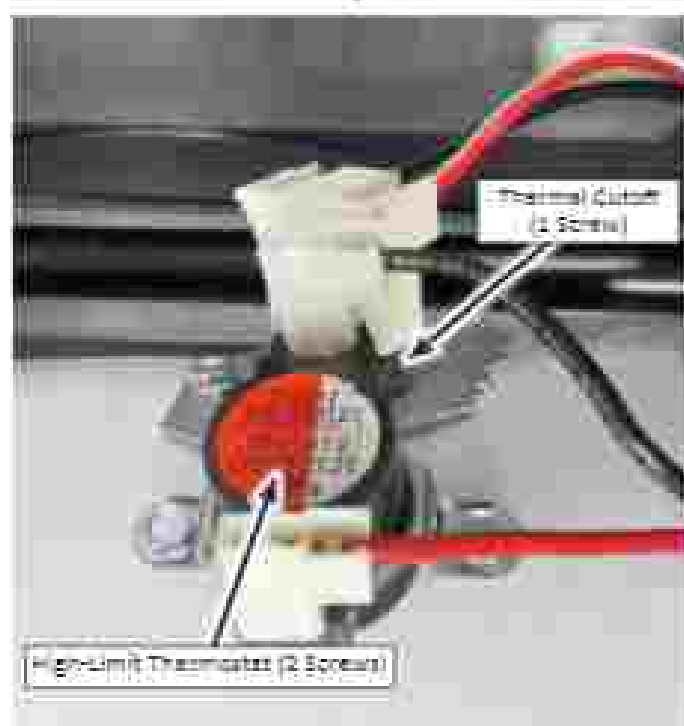

Figure 5 - Hot Runner Thermostat
7. To remove the High-Limit Thermostat or the Thermal Cutoff (see Figure 5):
- Disconnect the two (2) wire connectors from the component terminals.
- Remove the two (2) screws from the High-Limit Thermostat, or the single screw from the Thermal Cutoff. Remove the component from the venturi.